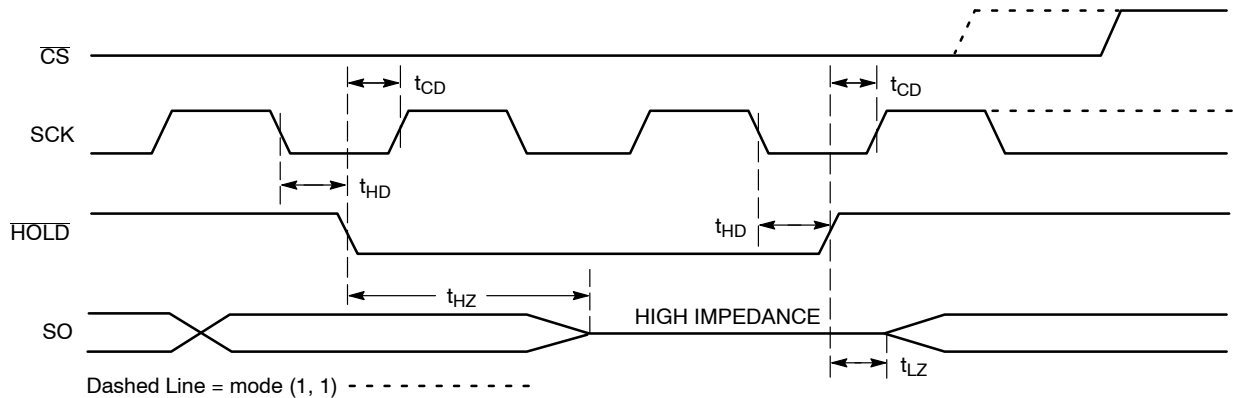

Figure 11. $\overline{\text{HOLD}}$ Timing
The $\overline{\text{HOLD}}$ input can be used to pause communication between host and NV25128. To pause, $\overline{\text{HOLD}}$ must be taken low while SCK is low (Figure 11). During the hold condition the device must remain selected ($\overline{\text{CS}}$ low). During the pause, the data output pin (SO) is tri-stated (high impedance) and SI transitions are ignored. To resume communication, $\overline{\text{HOLD}}$ must be taken high while SCK is low.